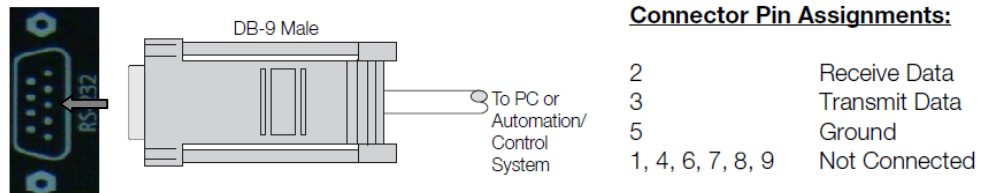

Figure 3-6. RS-232 Control System Connection.
- Use a straight-through RS-232 cable with a 9-pin male connector to connect a PC or home theater control/automation system (if present) to the RS-232 port on the Climate Series LCD; see Figure 3-6.